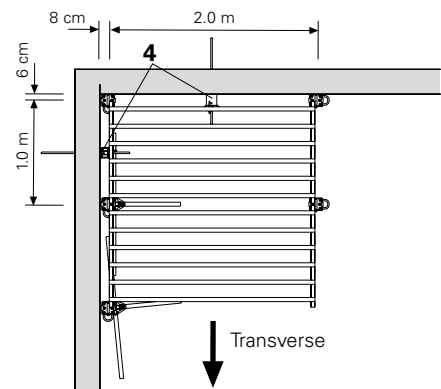

Fig. A4.06
- Always carry out the work row by row in the transverse direction. (Fig. A4.06)